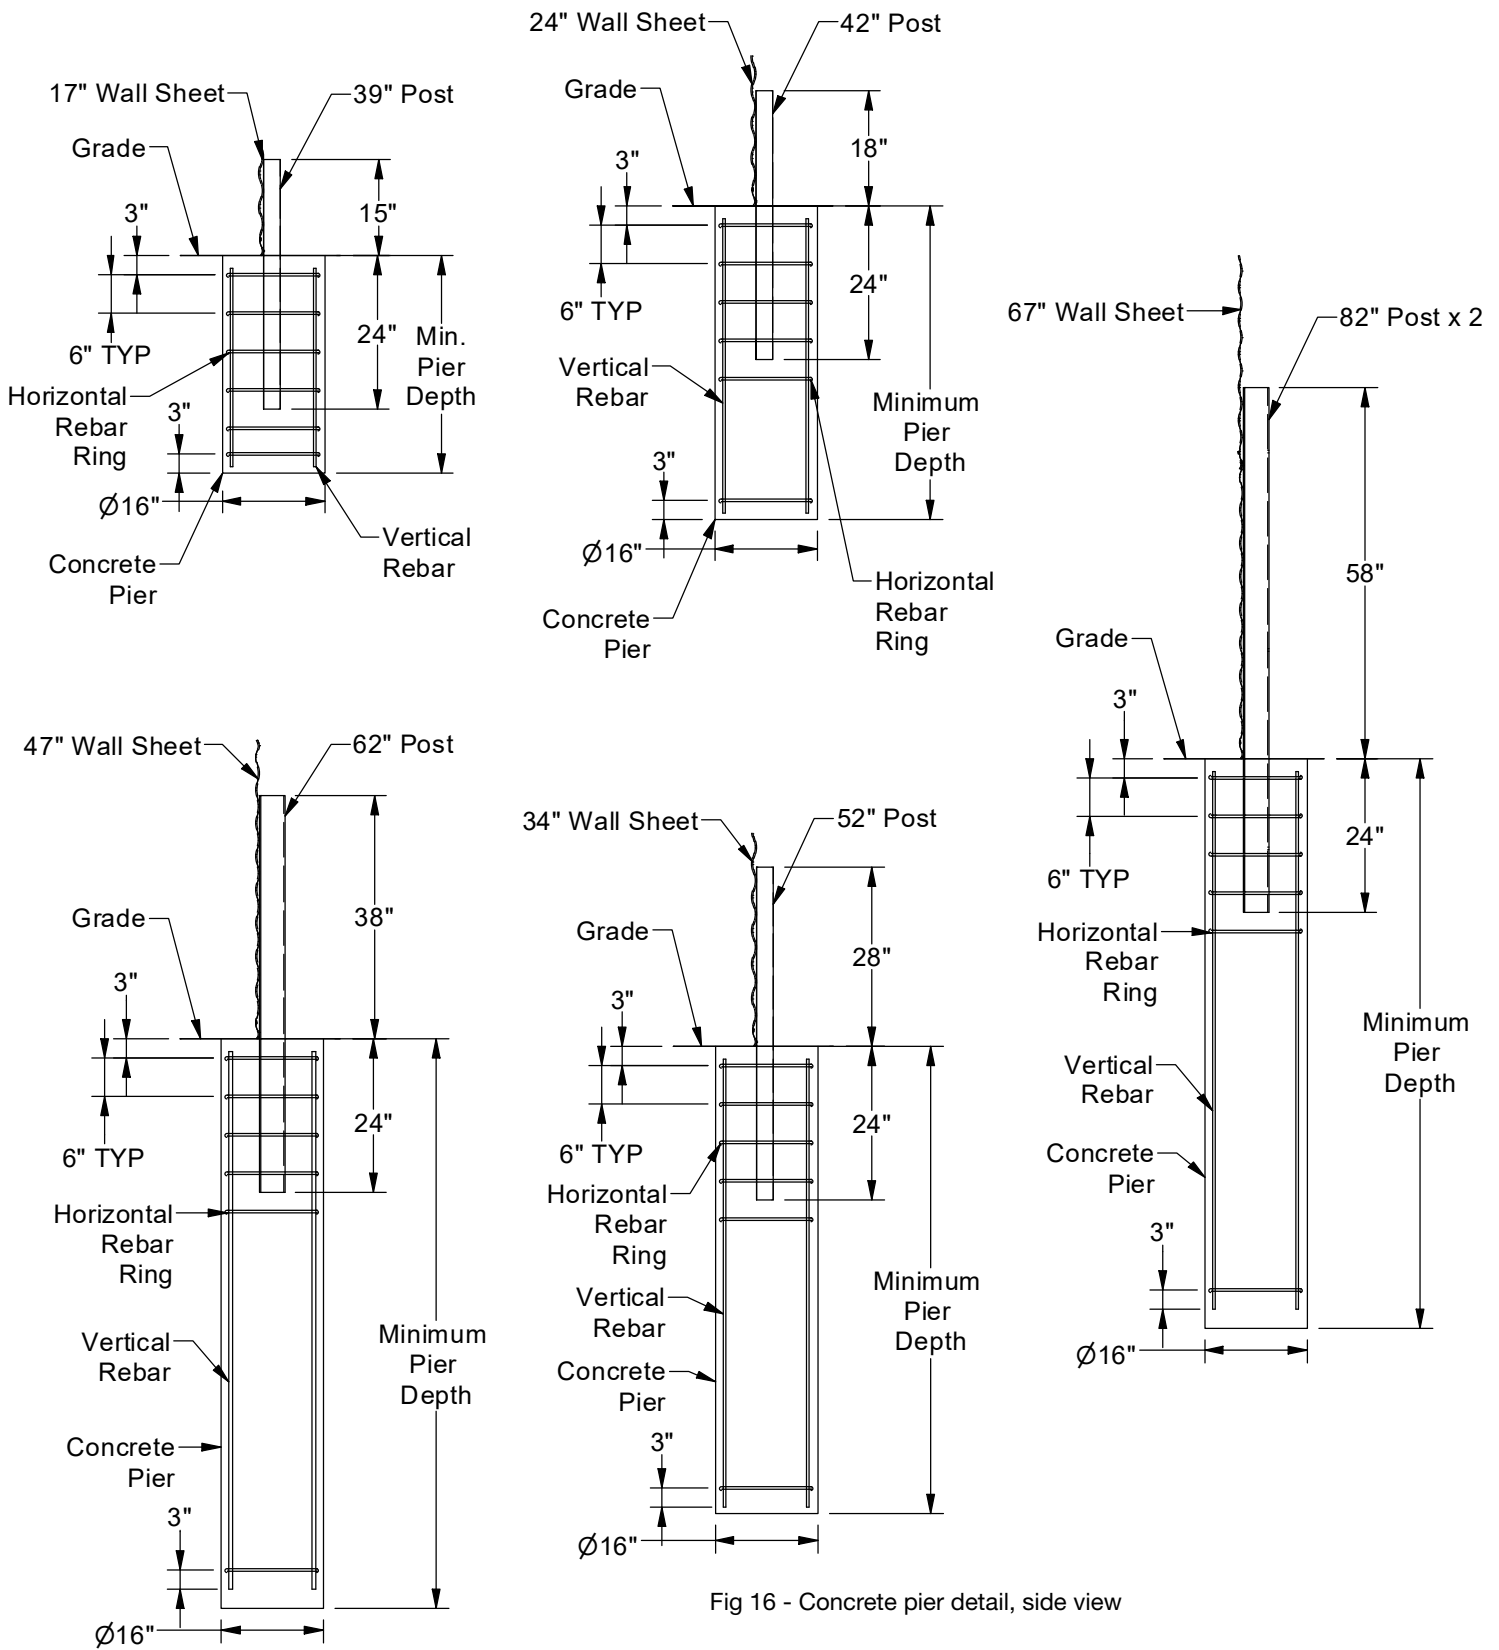

Fig 16 - Concrete pier detail, side view
- See Figure 16. All concrete piers shall: